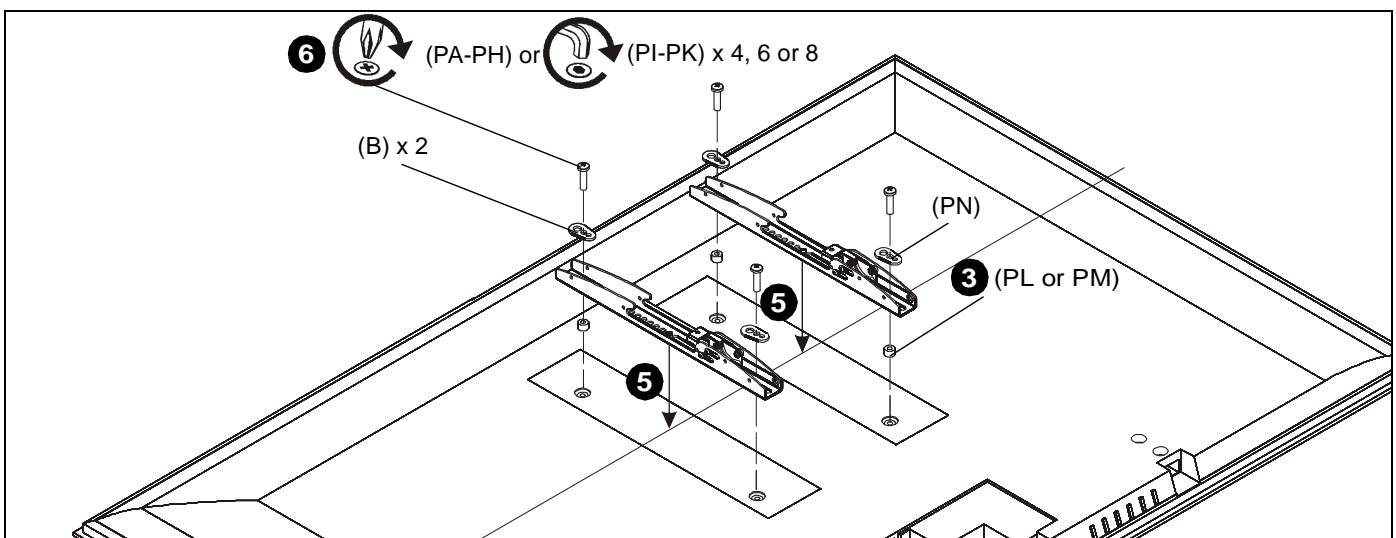

Figure 6
2. Select screw *diameter* by examining hardware (PA-PK) (4mm, 5mm, 6mm or 8mm) and comparing with mounting holes on display. (See Figure 6)
3. Select spacers: (See Figure 6)
- If mounting holes are not recessed and both uprights (B) can lay flat against display, then no spacers are required.
- If mounting holes are recessed, or if protrusions prevent uprights (B) from laying flat, then spacers (TL or TM) must be used.
4. Select screw *length*: (See Figure 6)
- Using your hand, insert **SHORTEST** length screw of selected diameter (PA, PD, PG or PI) through universal washer (PN), uprights (B), selected spacer (PL or PM), into display mounting hole. Do NOT thread screw into hole at this time.
5. Place uprights (B) on display, ensuring: (See Figure 6)
- Center of uprights (B) are as close to the center of the back of display as possible after being installed. Center of bracket is indicated by the diamond-shaped hole.
6. Use selected screws and spacers to install two interface uprights (B) to back of display. (See Figure 6)